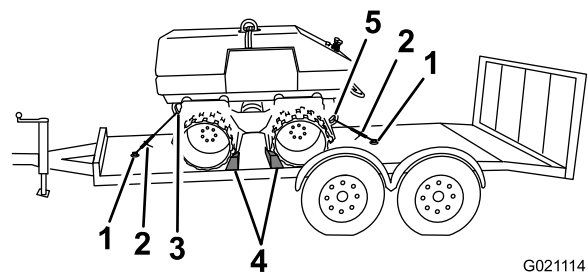

Figure 35
5. Secure the machine to the transport vehicle using blocking and load binders between the anchor rings on the transport vehicle and the tie-down rings on the machine (Figure 35).